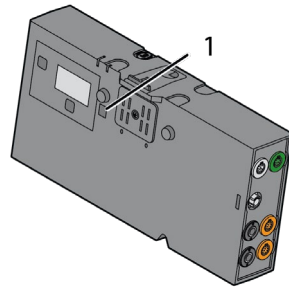

Fig. 10-5 Patient box, infrared interface
5. Wipe the infrared interface of the patient box with a cloth (see Fig. 10-5, item 1).